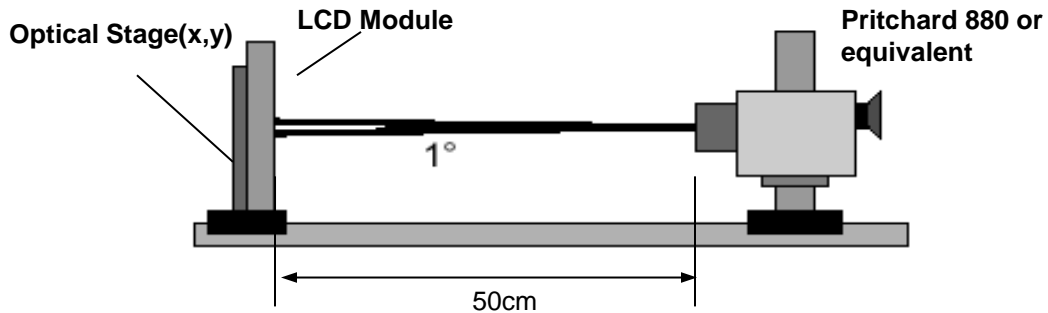

FIG. 1 Optical Characteristic Measurement Equipment and Method
FIG. 1 shows additional information concerning the measurement equipment and method.
2. Optical Characteristics is determined after the unit has been 'ON' and 1 Hour after lighting the backlight in a dark environment at $25 \pm 2^\circ\text{C}$. Surface luminance is the luminance value at center 1-point across the LCD surface 50cm from the surface with all pixels displaying white. For more information see the FIG. 1